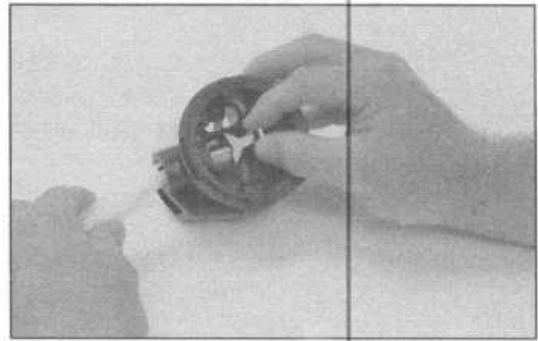

FIG 6-6
16. Using a genuine TUSA poppet retainer tool, push the inlet tube valve assembly (15) into the regulator case (27). Remove the inlet tube valve assembly noting the position of the flow port and its position with respect to the air deflector in the regulator case. Refer to figure 6-6.